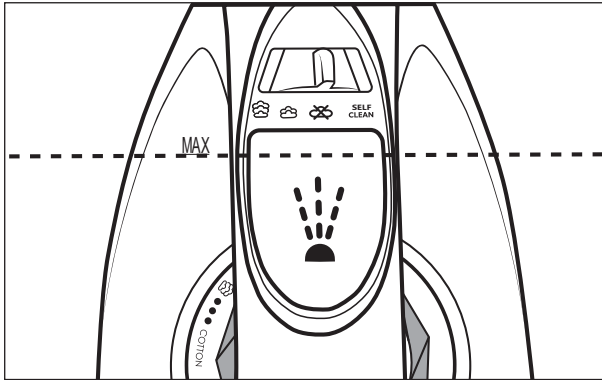

Fig. 1
- 3) Use the measuring cup **1** to fill the water tank  **2** up to no more than the **MAX** marking (see fig. 1).